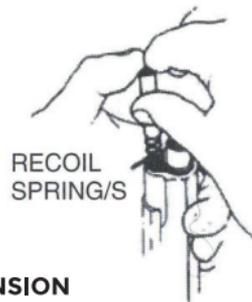

FIGURE 6 RELEASING SPRING TENSION
3. Push slide back about 1/4 inch, press down on recoil spring plug (located just below muzzle) and at the same time rotate barrel bushing clockwise about 1/4 turn, using barrel bushing wrench if necessary; this will free plug and recoil spring. Keep pressure on plug to prevent it from being ejected by the spring, then allow plug and spring to gradually extend out of slide. (See Figure 6).